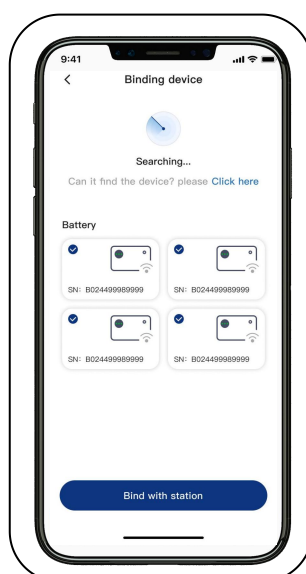

Figure 41
- Then enter the Battery Setting page, as shown in Fig.41, and you can upgrade the battery online and select the inverter protocol, etc.